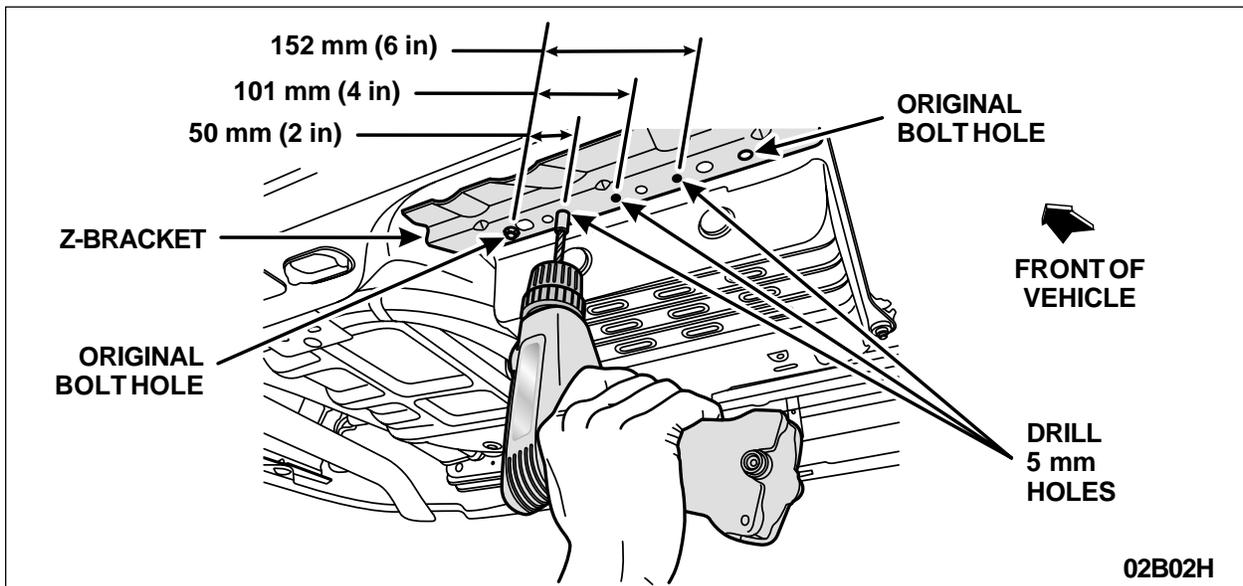

FIGURE 8
10. **CAUTION: DO NOT drill through the trunk floor when drilling the rivet holes. Place a drill stop or an abundance of tape 12 mm (1/2-inch) from the tip of the drill bit.** Reinstall one of the removed bolts to hold the canister securely, then drill the three, 5 mm (13/64-inch) rivet holes through the Z-bracket and the evaporative emissions canister mounting flange. See Figure 8.